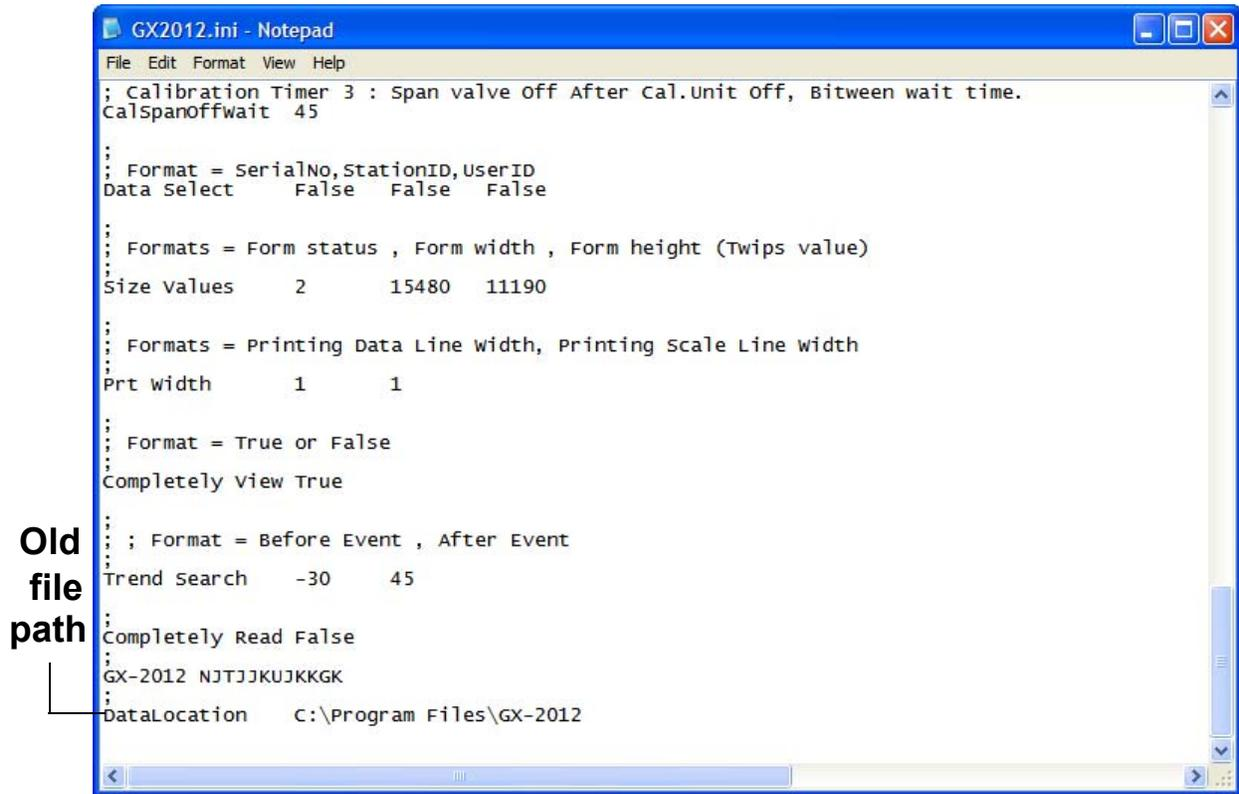

Figure 10: GX2012.ini File with Original Path
5. Scroll down to the very last line. This line is the Data Location path. An example of the path created by the program is shown in Figure 10. Replace the current path with the desired path (see Figure 11).